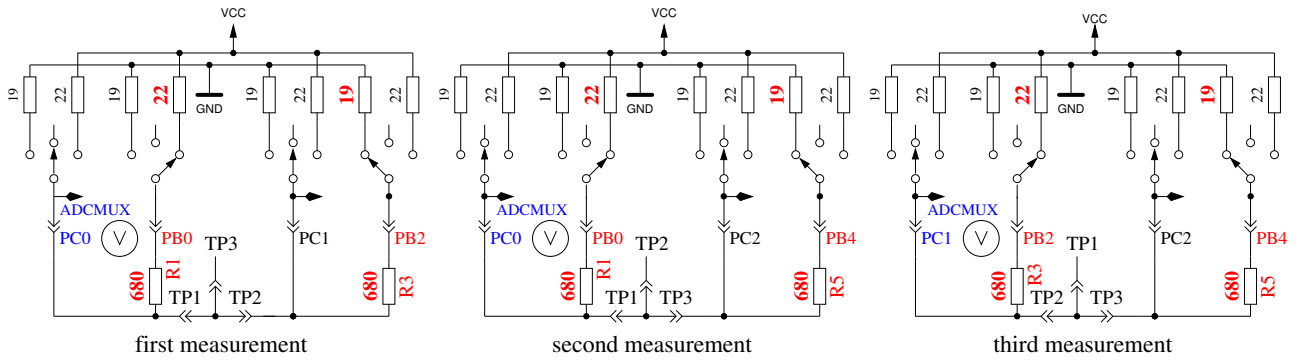

Figure 5.55. Comparison of 680Ω resistors
2. **Comparing of the 680Ω resistors.** In row 1 the cryptic text "+RL- 12 13 23" is shown. Meaning of this is as follows: The RL is the short form of Resistor Low meaning the 680Ω resistors. The 12 stand for: resistor at pin 1 is connected to VCC (+) and resistor at pin 2 is connected to GND (-). The result of this measurement is displayed in row 2 at the first place as difference to the theoretical value. In row 1 follows now a "13" which means, that the first connection of measurement 1 is still connected with 680Ω to VCC but that the resistor of pin 3 is connected to GND. The result is displayed in the middle place of row 2 as difference to the theoretical value. The last measurement of this test "23." means that now the resistor at pin 2 is connected to VCC (+) and the resistor of pin 3 is connected to GND. The result of measurement is displayed at the last place of LCR row 2 as difference to the theoretical value. Please remember, that the resolution of the ADC is about 4.88mV! The measurement situation is also shown in figure 5.55. The theoretical value with respect to the internal resistance of the pins should be: $\frac{5001 \cdot (19+680)}{(19+680+680+22)} = 2493$.